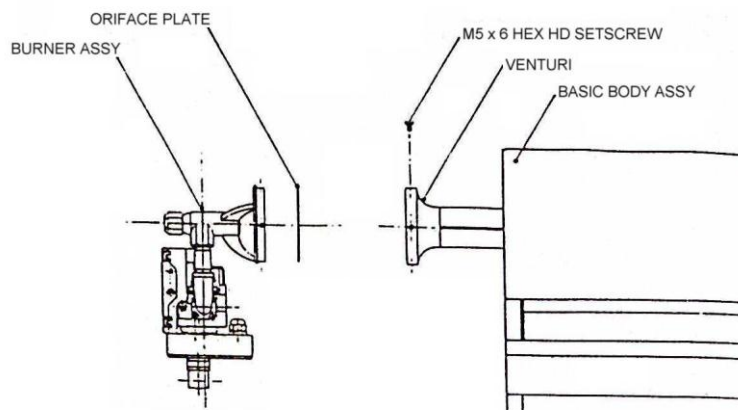

Fig. 7
- 4.1.1 Place the Orifice Plate (when supplied) into the venturi inlet of the Basic Body Assembly and press into position against the shoulder. Insert the Burner Assembly spigot into the venturi inlet and align the Control Valve/Ignition Control as shown in Fig 7 below: